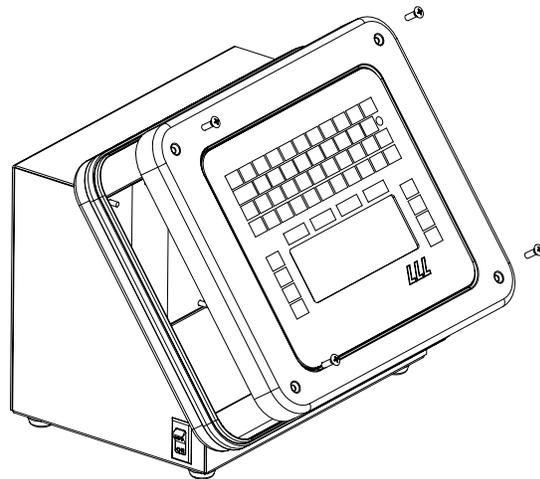

Figure No. 2
4. Rotate the front cover assembly 180 degrees. See Figure No. 2.